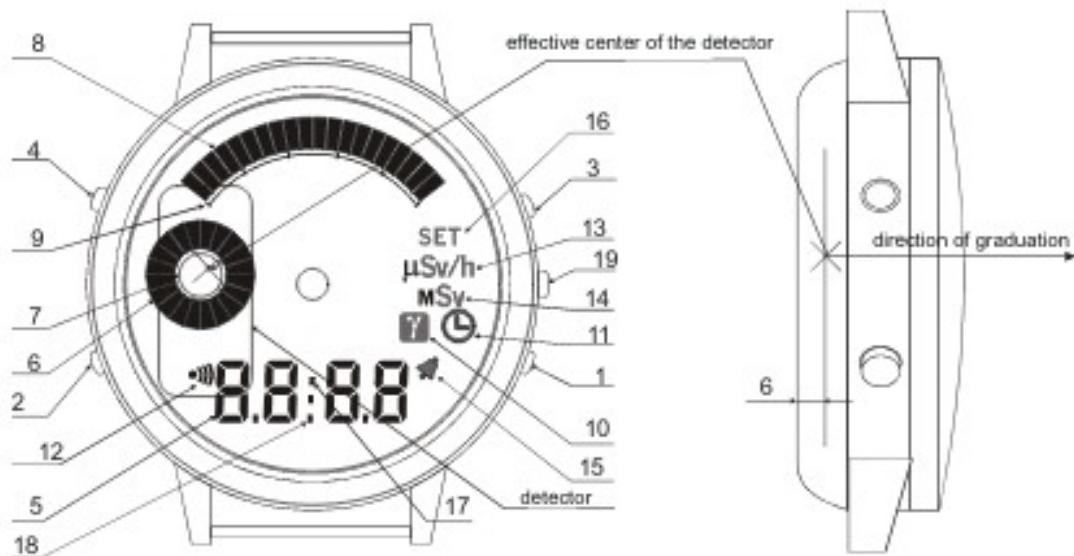

Fig. 1.2
When the registered DER value is equal to or higher than the preset DER value, the linear analogue scale is completely filled in, an audible signal sounds, and the LCD indicates the DER value. To stop this signal, press and release the button 1 ("set") or button 2 ("mode") (see Fig. 1.2). The indicator will continue the registration and indication of DER.
1.3.14 The indicator is supplied with a display backlight, which is turned ON when the button 3 ("light") is pressed (see Fig. 1.2).
1.4.2 The general view of the indicator is given in Fig 1.2.
A direction of graduation and an effective center of the detector, relative to which the factory calibration is performed are shown in Fig. 1.2.
- Current time indication, as well as to change the parameters, to switch the alarmclock ON/OFF, to turn ON/OFF the dose rate audible indication (see.Fig. 1.2);
Press button 3 “**light**” (Fig.1.2) to switch ON the LCD electroluminescent backlight. A short press of the button will turn the backlight ON for approximately 1 second. A long press (pressing and holding the button) will turn the backlight ON for the time the button is held.
Press and release the “**mode**” button (1) to correct the flashing digit, each press will increase the number by one. The LCD will display the alarm clock turning ON sign (12) (see Fig. 1.2). This means that after setting the alarm clock ON time, the alarm clock will be turned ON.